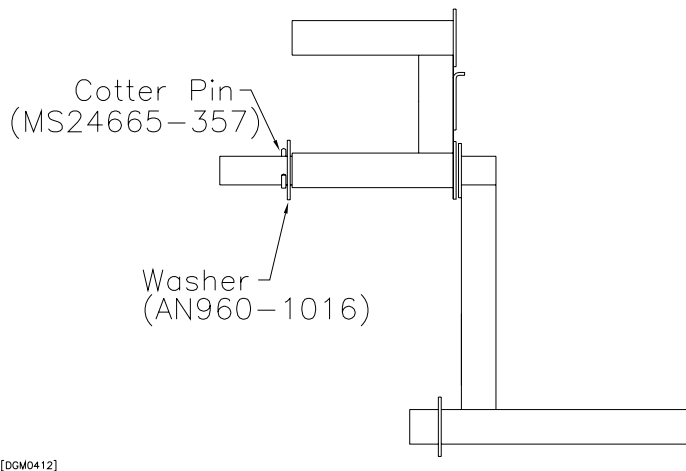

Figure 20.1.3
3) Slide a washer (M18-L ) onto the Rudder Pedal against the Brake Pedal. Drill a #30 hole through the rudder pedal and install a cotter pin (MS24665-357). Figure 20.1.3.